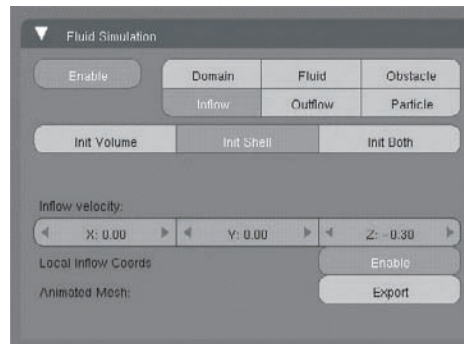

Figure 5.15 Inflow options
4. As in the previous examples, set the default cube to be the domain, and leave all the default parameters as they are, except for the display quality, which should be set to Final. Select the disk-shaped Cylinder object and enable the fluid simulation for the object, selecting Inflow and setting the options as in Figure 5.15. Because this object has no volume, it will produce fluid only by the Init Shell method, so this should be selected.